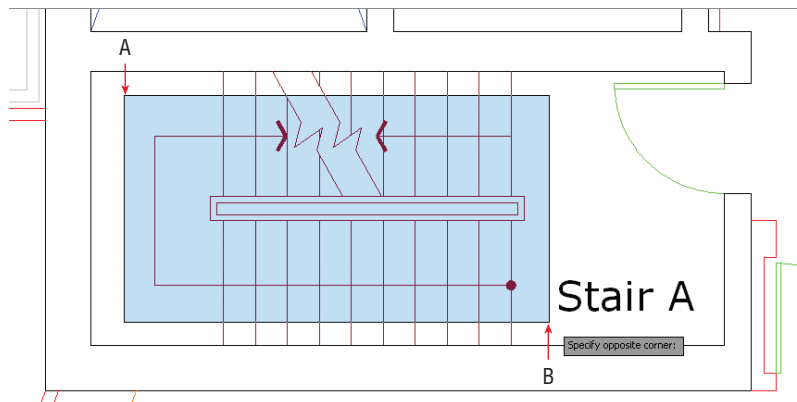

FIGURE 4.2 Drawing an implied window
4. Click point A and then B, as shown in Figure 4.2. Observe that a transparent *implied window* appears between these points. The objects that are selected are only those completely contained within the borders of the blue window. This particular selection includes the stair arrows, handrails, and three lines representing stair treads near the break lines.